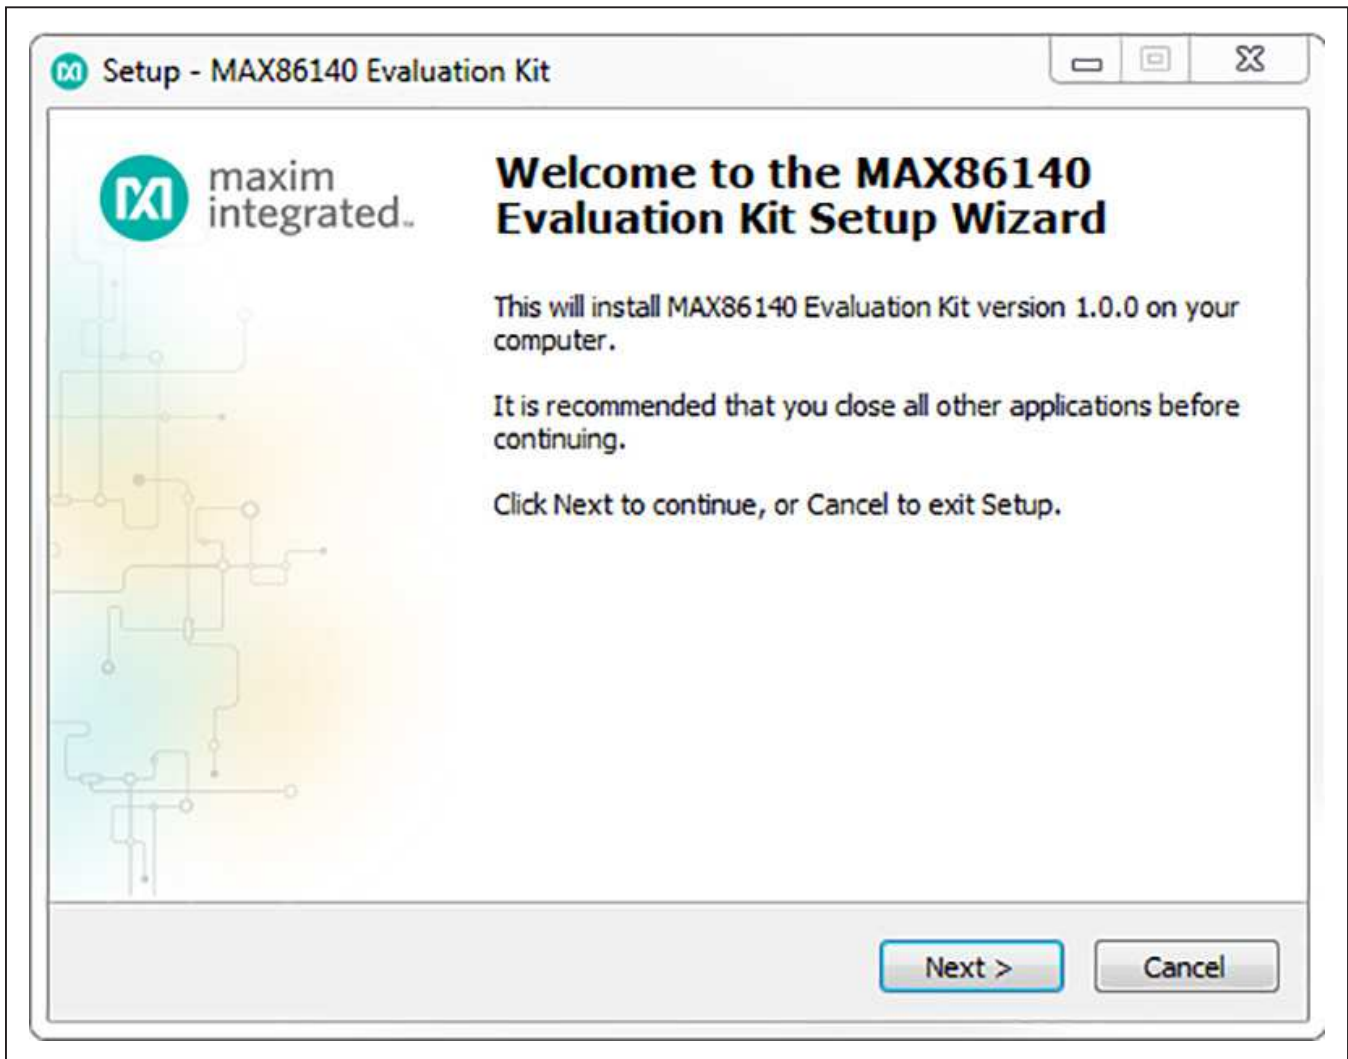
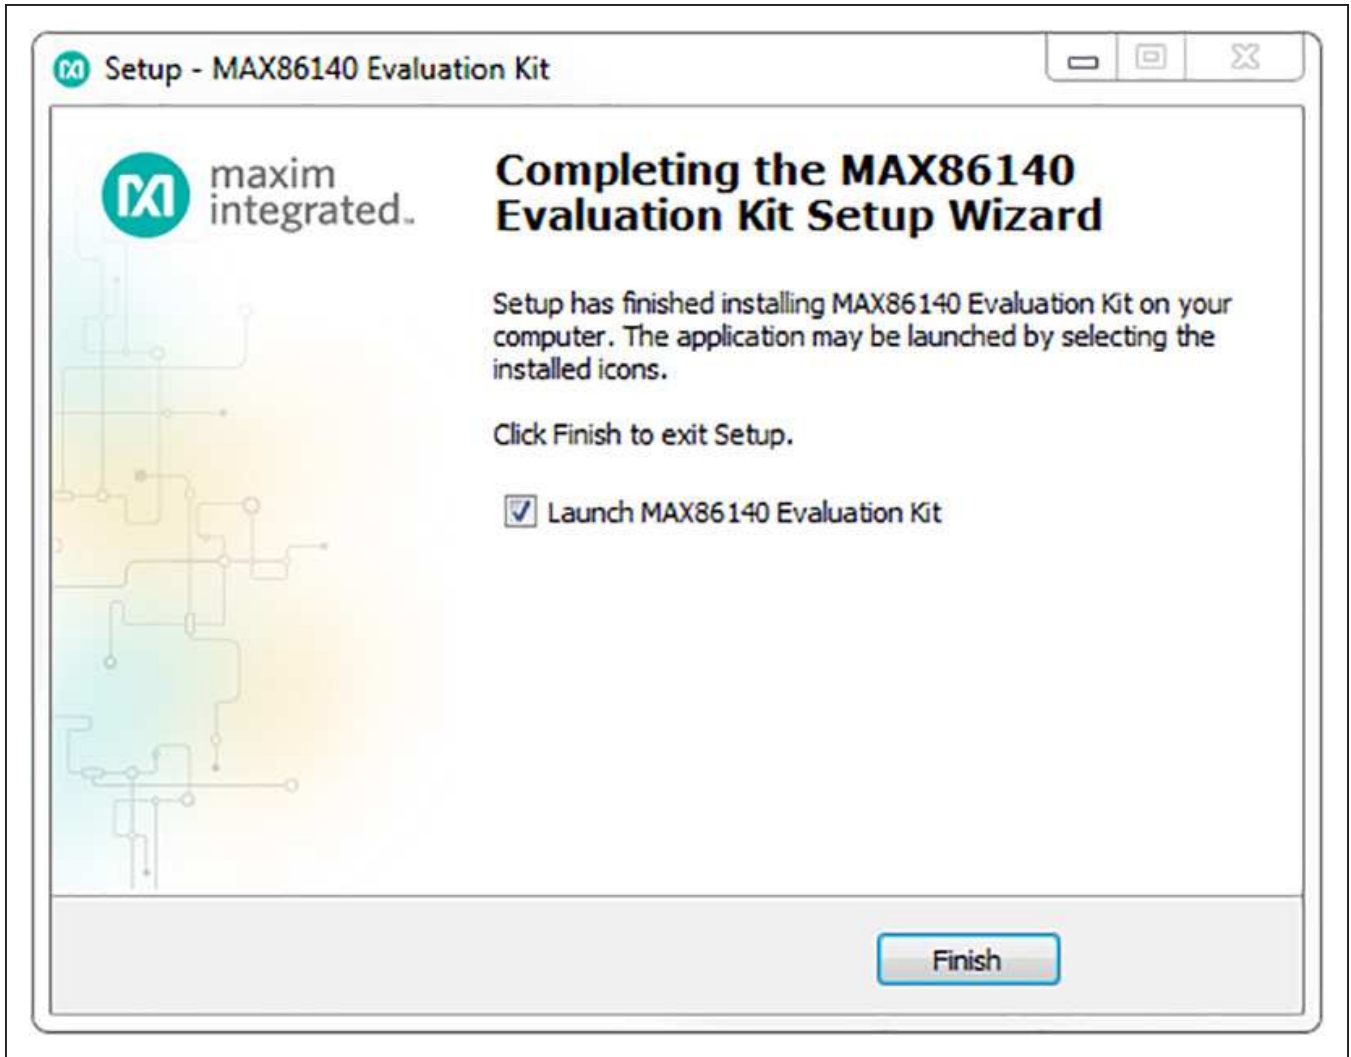

Figure 1. Setup MAX86140 EVSYS GUI Software Step 1
Figure 7. Setup MAX86140 EVSYS GUI Software Step 7
- 3) Open up MAX86140GUISetupVxxx.exe and follow the instructions from the pop-up windows, as shown in Figure 1 to Figure 7.